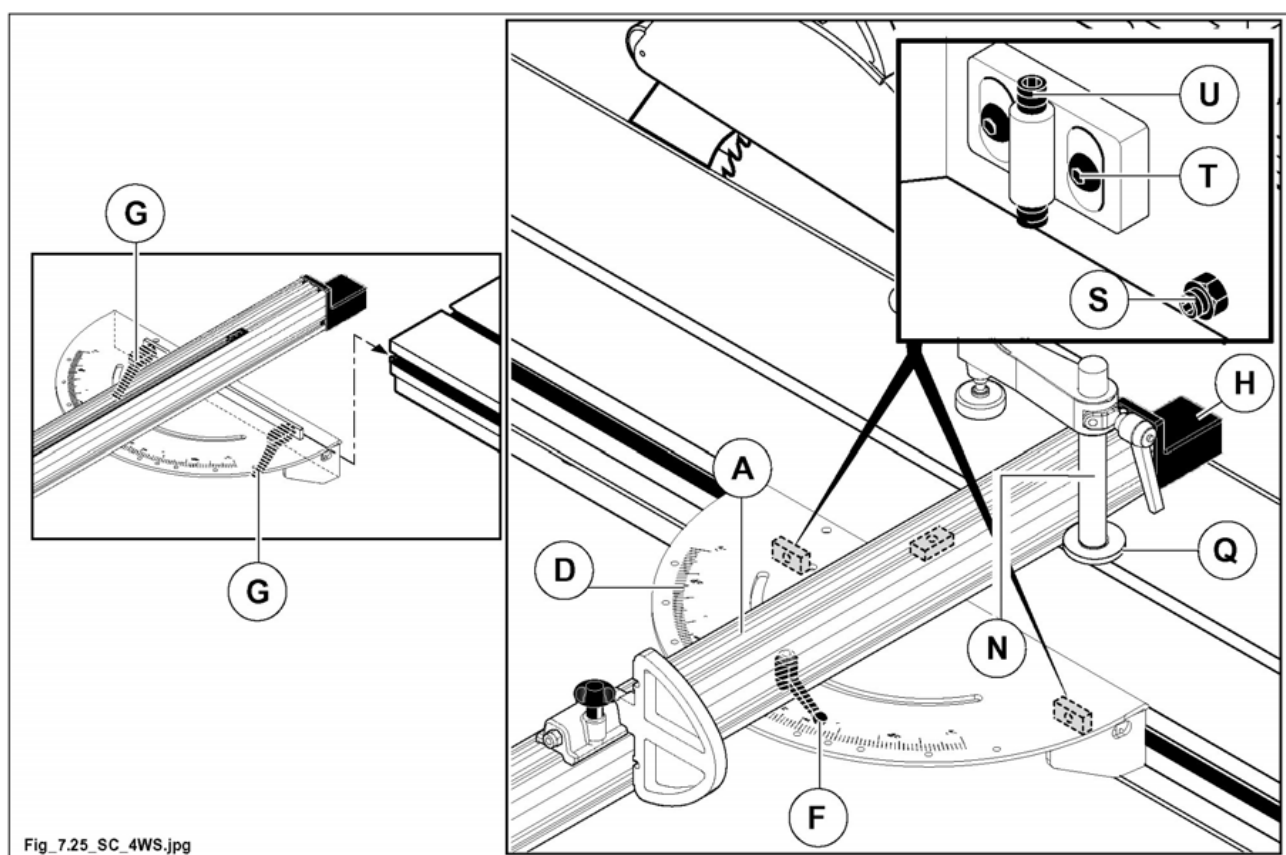

Fig. 7.25
- Unlock the ruler assembly by turning (counterclockwise) the stud bolt (N fig. 7.25);
- loosen handle (F fig. 7.25);
- for mitre cuts turn the fence unit (A fig. 7.25) using scale (D fig. 7.25) as a reference;
- block by tightening handle (F fig. 7.25);
- position the presser up against the ruler assembly ensuring that the washer (Q fig. 7.25) is inserted into the groove;
- lock the ruler assembly by turning (clockwise) the stud bolt (N fig. 7.25).
- loosen levers (G fig. 7.25);
- adjust the dowels (S fig. 7.25) to ensure the table is parallel to the wagon;
- loosen screws (T fig. 7.25) and move the dowels (U fig. 7.25) to adjust the height position.
when the chip guard (H fig. 7.25) is worn, move it after having loosened the retaining screws.